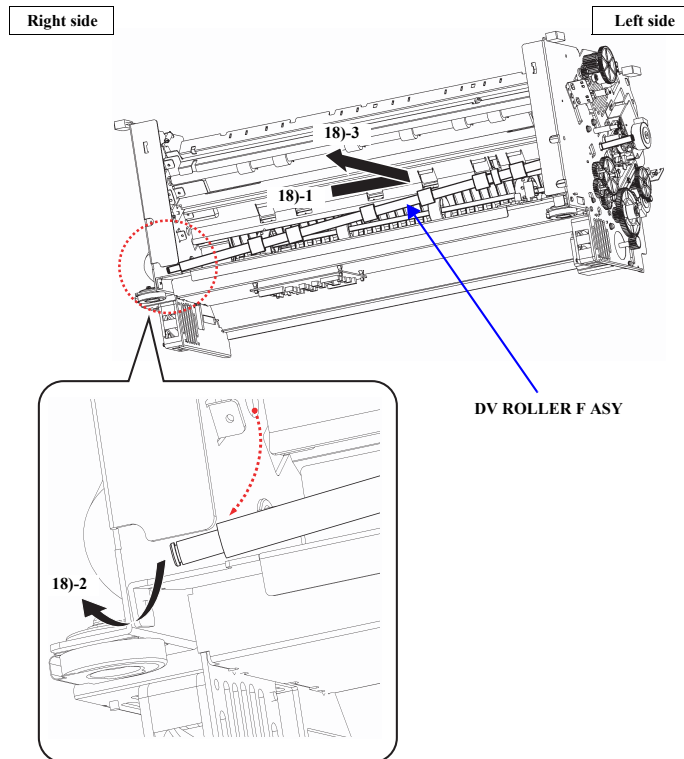

Figure 4-58. DV ROLLER F ASY Removal (5)
18. Slide the DV ROLLER ASY to the left until the right side of the shaft clears the frame, then lift the right side of the shaft upward through the clearance in the Right side frame shown in Figure 4-58. Pull the left-side of the shaft out of the Left side frame to remove the DV ROLLER ASY.